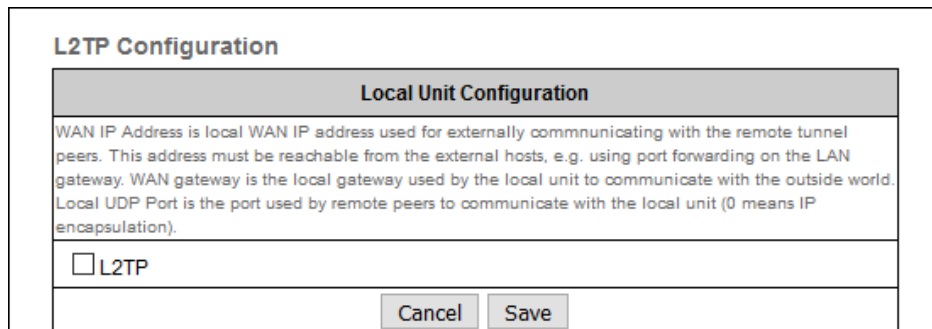

Figure 39. Configurator GUI (L2TP Configuration dialog)
- The **L2TP Configuration** dialog will be shown (Figure 39 \(page 84\)).